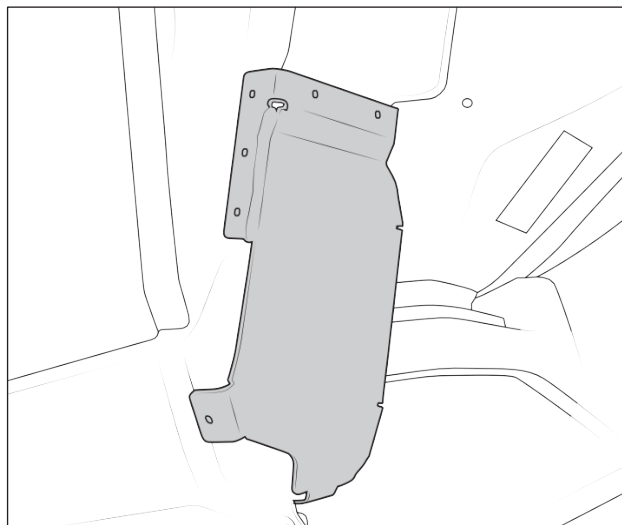

Figure 17
- F. When closeout panel fits cut opening uniformly all the way around mark rivet hole locations. Drill one or two holes for both the interior and exterior flanges. Place rivets in the locations to loosely install the closeout panel. Do not completely install just yet (fig. 17).